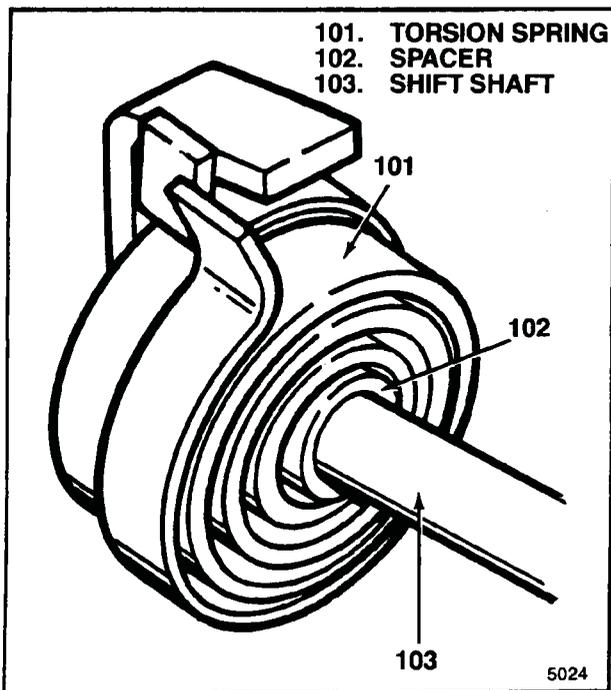

Figure 5-4. Installing First Spring End
- a. Insert spacer (102) in torsion spring (101) ID and install over free end of shift shaft (103).
- b. Slide torsion spring (101) and spacer (102) on shift shaft (103) up to drive tang and position first spring end to left (viewed from free end of shaft) of drive tang (see figure 5-4).